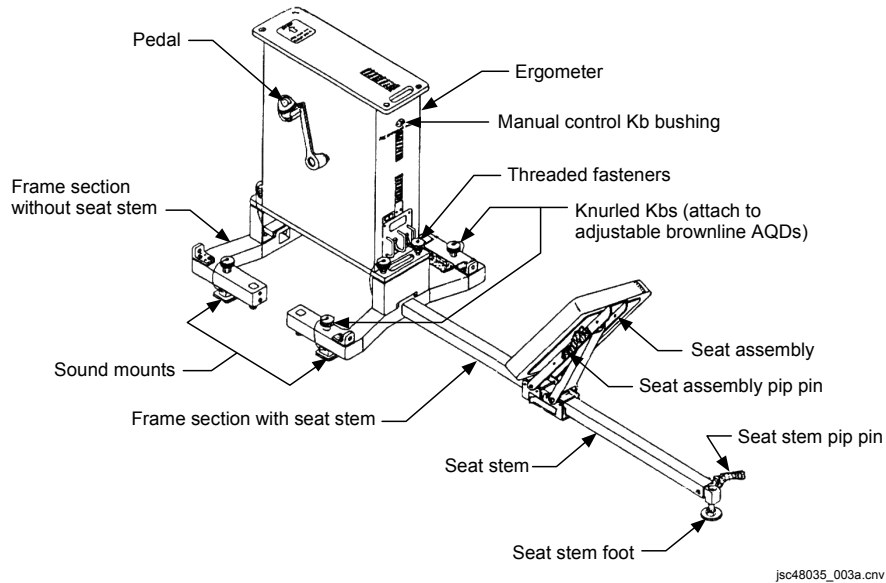

Figure 3-2.- Ergometer.
7. Mount both frame sections loosely to AQDs on seat floor studs (fig 3-2) using Knurled Kbs (four)
15. Install pedals on cranks using Wrench from Ergo Acc Bag, attach cranks with pedals to Ergometer, tighten with Wrench (see fig 3-2)